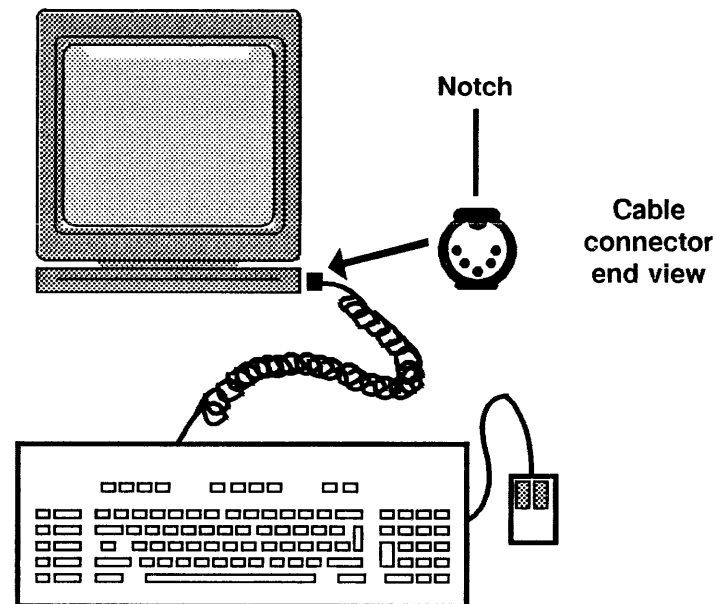

Figure 17. Keyboard and Display
1. Attach the keyboard cable to the display at the right side of the pedestal (Figure 17).